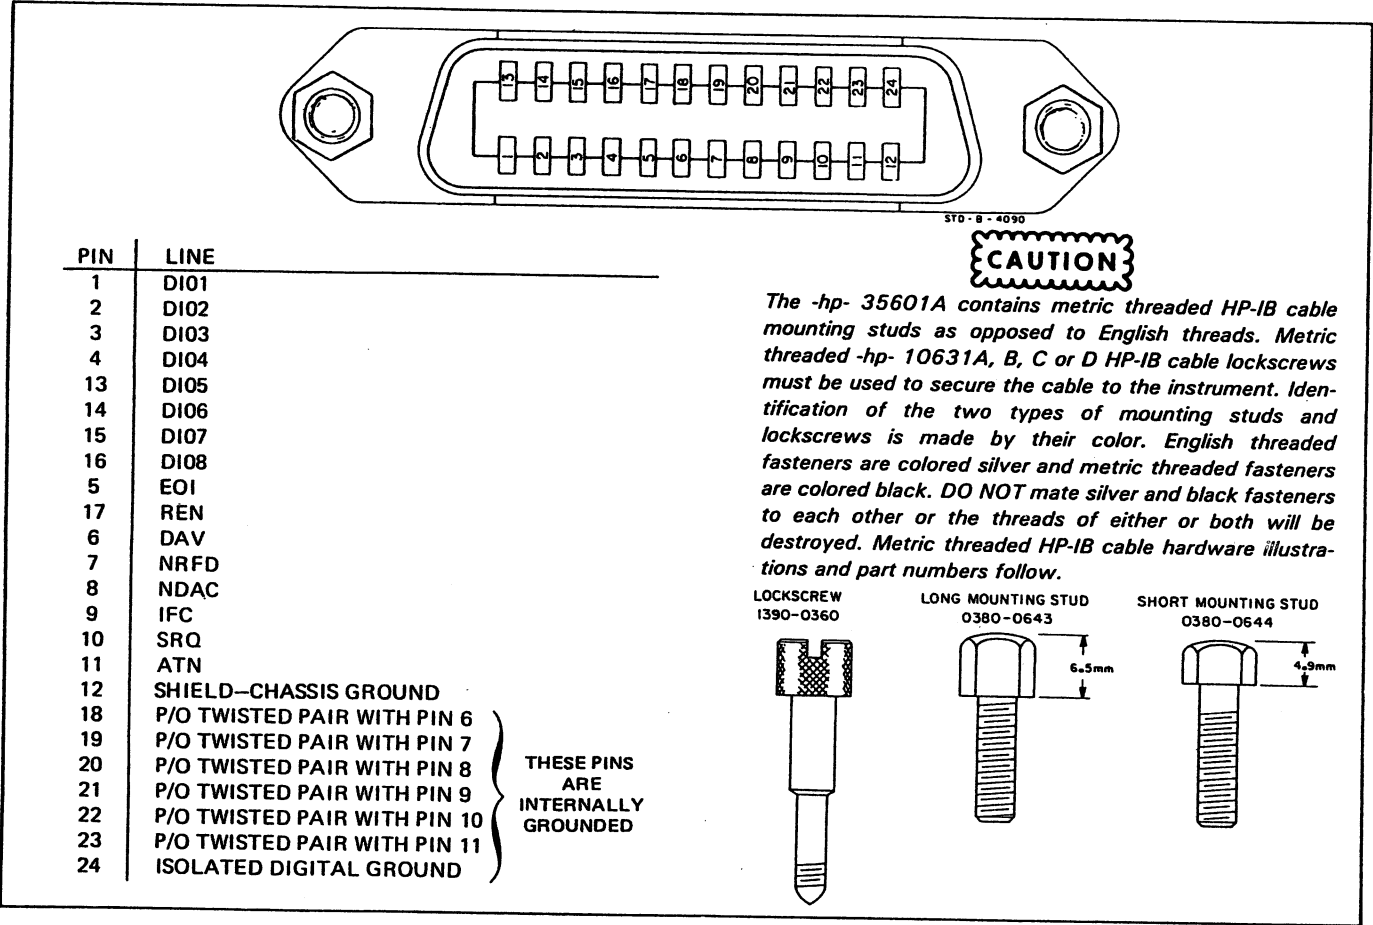

Figure 2-6. HP-IB Connector
9. Connect the HP-IB cable from the other instruments to the HP-IB input on the rear panel of the -hp- 35601A. See the NOTE below and Figure 2-6 for more information.